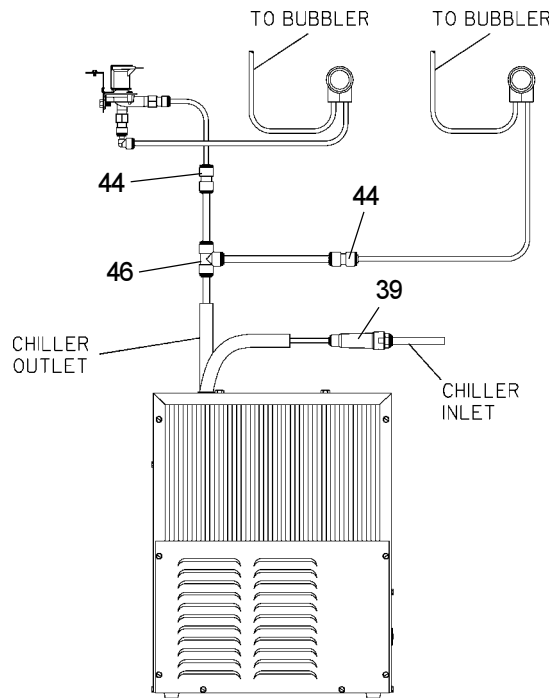

FIG. 6
**OVLSER-EE:** (Ref. Fig. 6) Make connection between remote chiller and building supply line. Remove the 3/8" x 1/4" union (item 44) from the chiller inlet tube and install it on the water inlet line of the upper fountain. Install the strainer (item 39) on the chiller inlet tube. Install a 3/8" O.D unplated copper water line between the valve and the cooler. Remove all burrs from the outside of the water line. Insert the 3/8" water line into the inlet side of the strainer by pushing it in until it reaches a positive stop, approximately 3/4" (19mm). See Figures 1 and 2. **DO NOT SOLDER TUBES INSERTED INTO THE STRAINER AS DAMAGE TO THE O-RINGS MAY RESULT.**